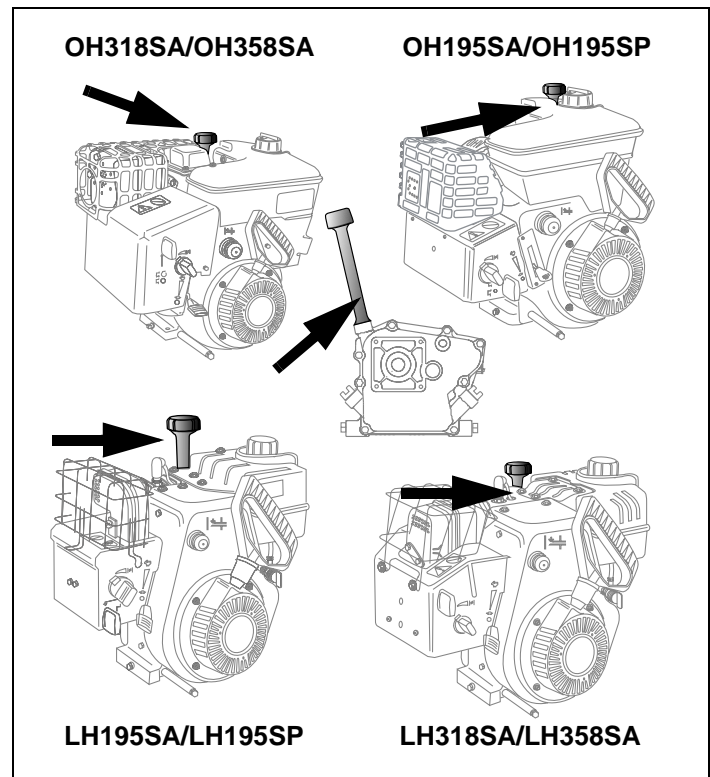

Figure 8. Oil Fill Cap/Dipstick Locations
2. Unscrew oil fill cap/dipstick from oil filler tube and wipe dipstick clean. See Figures 8 and 9.